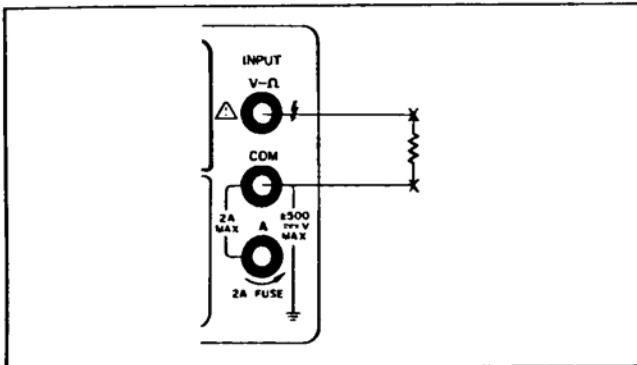

Figure 3-11. Resistance Measurement
- c. Connect test leads from the Multimeter $V\Omega$ (+) and COM (-) terminals to the resistance under test as shown in Figure 3-11.